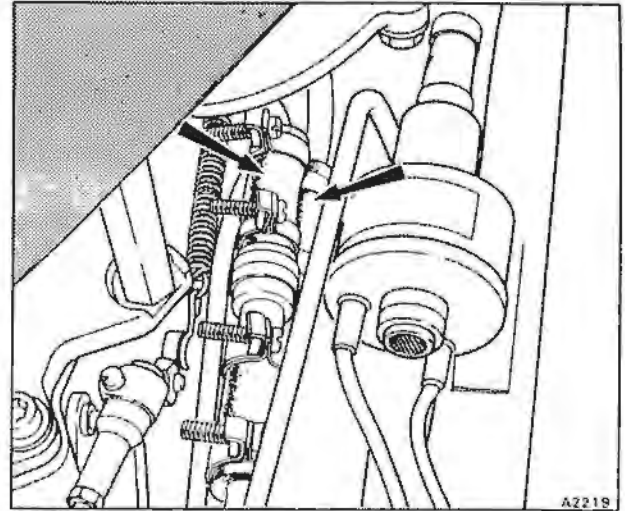

Fig. D2-14 Dump valve signal hoses
1. Unscrew the hose clamps securing the two flexible hoses to their respective connections on the bottom of the dump valve (see fig. D2-14).